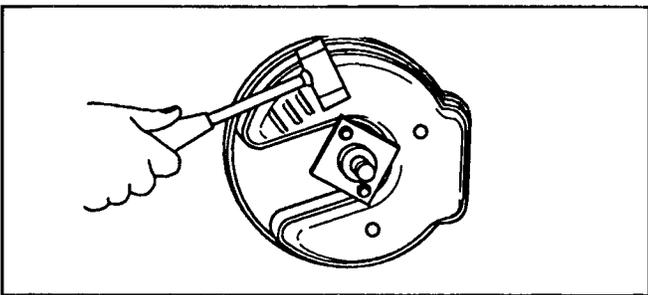

Figure 7
2. Using a soft hammer, gently tap the blade drive to remove it from the shaft of the engine (Figure 7).